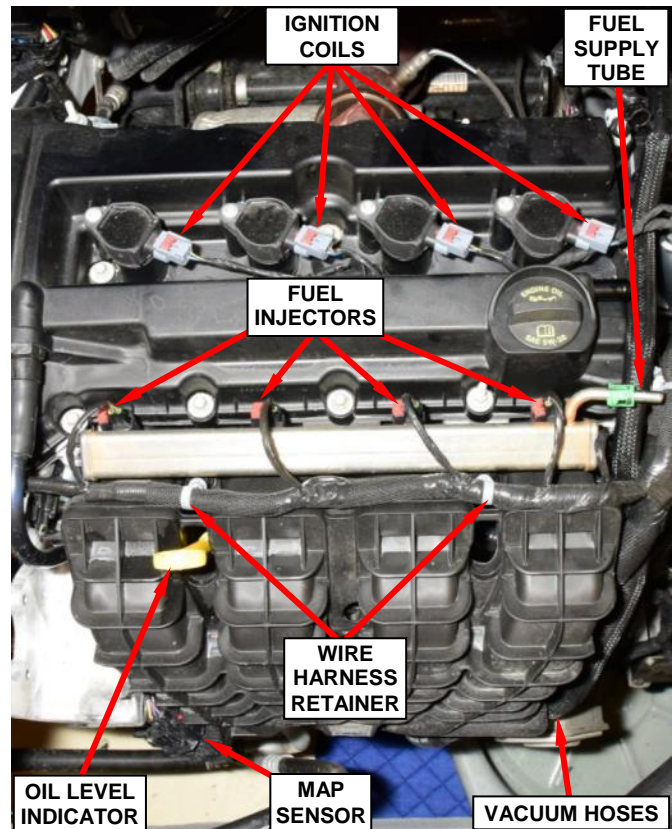

Figure 80 – Engine Wire Harness
43. Release the two engine wire harness retainers from the fuel rail studs (Figure 80).
44. Disconnect the engine wire harness from the fuel injectors (Figure 80).
45. Disconnect the fuel supply tube from the fuel rail (Figure 80).
46. Remove from the engine and save the oil level indicator (Figure 80).